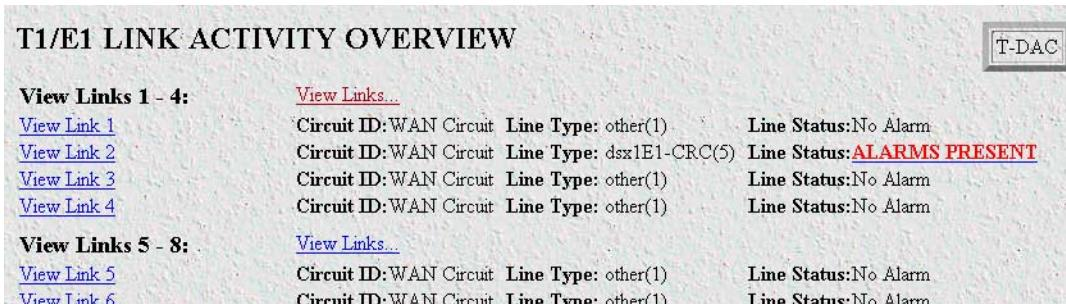

Figure 161. T1/E1 Link Activity Overview window displaying an alarm condition
- If an alarm or alarms are present for a specific WAN port, a hyperlink beside *Line Status:* will state *Alarms Present* (see figure 161). The associated web page called Circuit ID # Line Status Alarms points out the indication for the type of alarm.